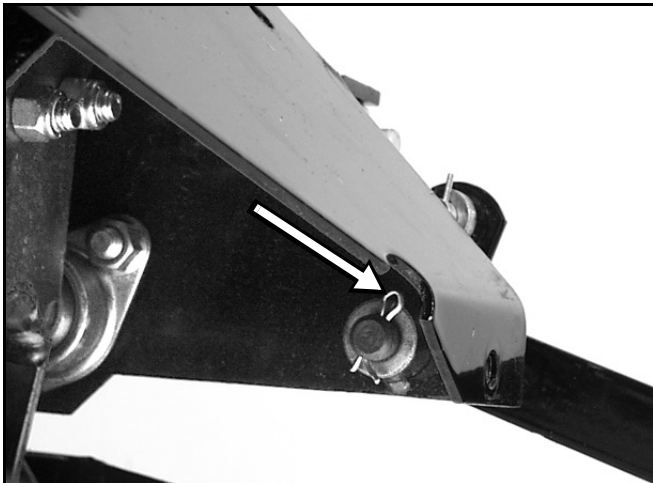

Figure 85
13. To remove the brake handle, remove the cotter pin from the brake handle pivot shaft (Figure 85).